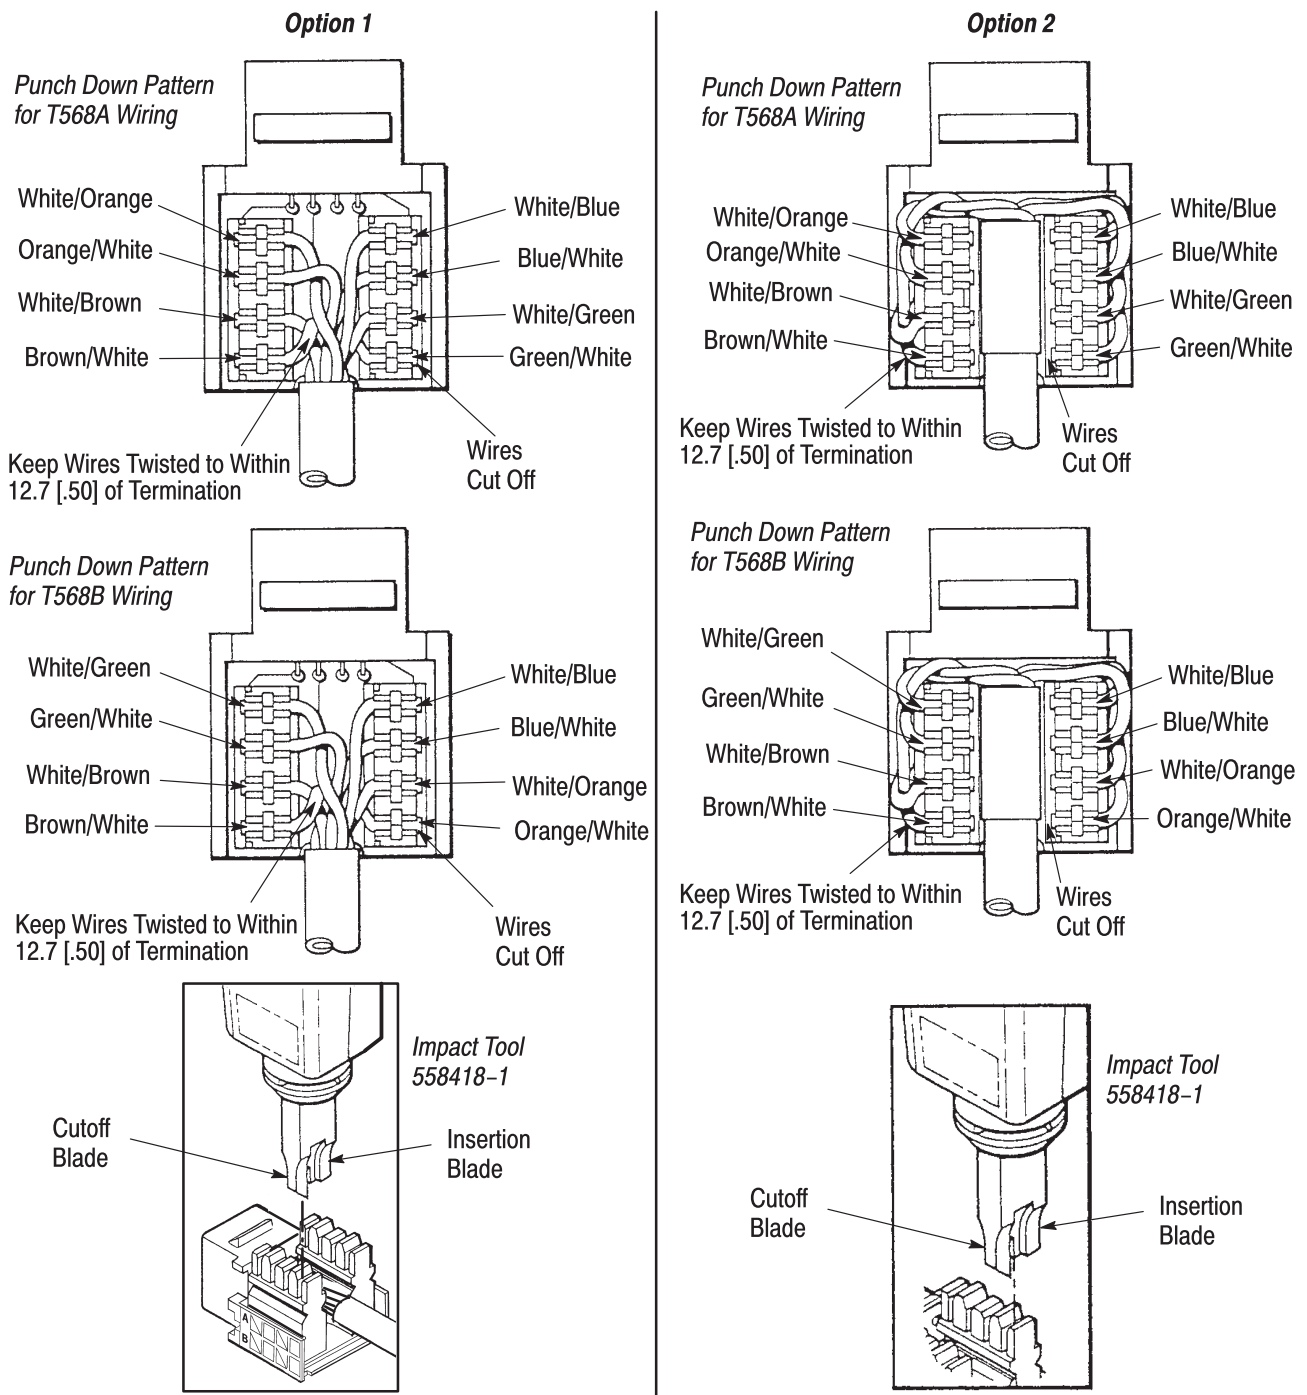

Figure 3
3.1. Option 1 (see Figure 3)
Set impact setting for low-impact. See Figure 3 for desired wire dress and cutoff orientation.
3.2. Option 2 (For Additional Strain Relief) (see Figure 3)